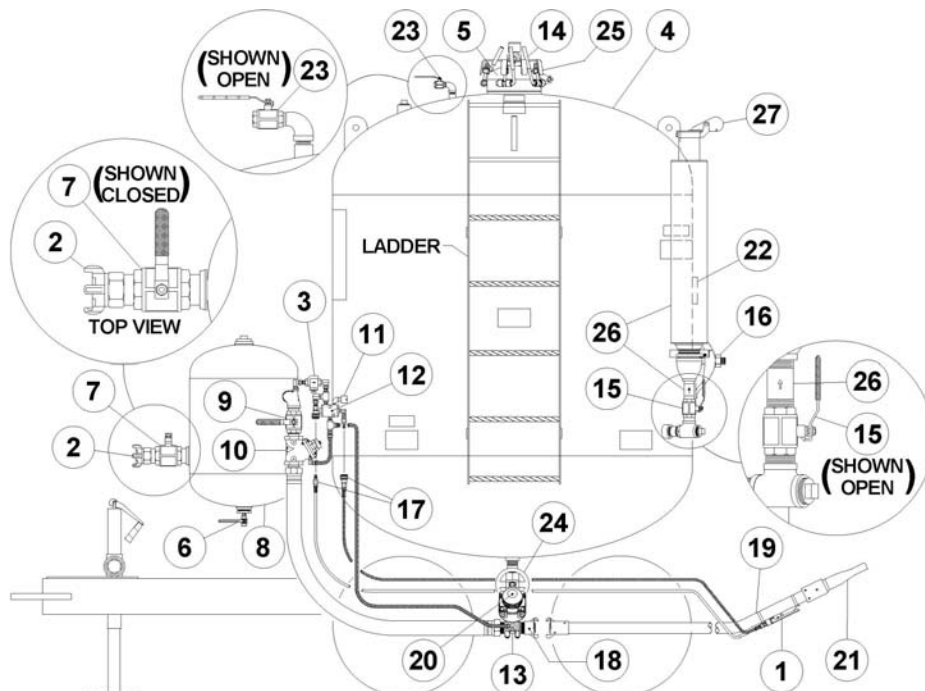

Figure 7.3 – Typical Bulk Abrasive Blaster
7.2 Beginning the Blasting Operation (See Figure 7.3 or Figure 8.7)
- 7.2.3. Open the abrasive shutoff valve (#24). See Figure 7.3.
- 7.2.5. Close the blowdown ball valve (#15) at the rear of the vessel near the manway (#16) and close the pressure indication ball valve (#23) next to the closure. See Figure 7.3.
7.3 Ending the Blast Operation (See Figure 7.3 or Figure 8.7)
- 7.3.1. Close the air inlet ball valve (#7). The ball valve is closed when the handle is fully turned to the position shown in Figure 7.3 (handle perpendicular to body). The handle tab will bottom against the ball valve body in the closed position.